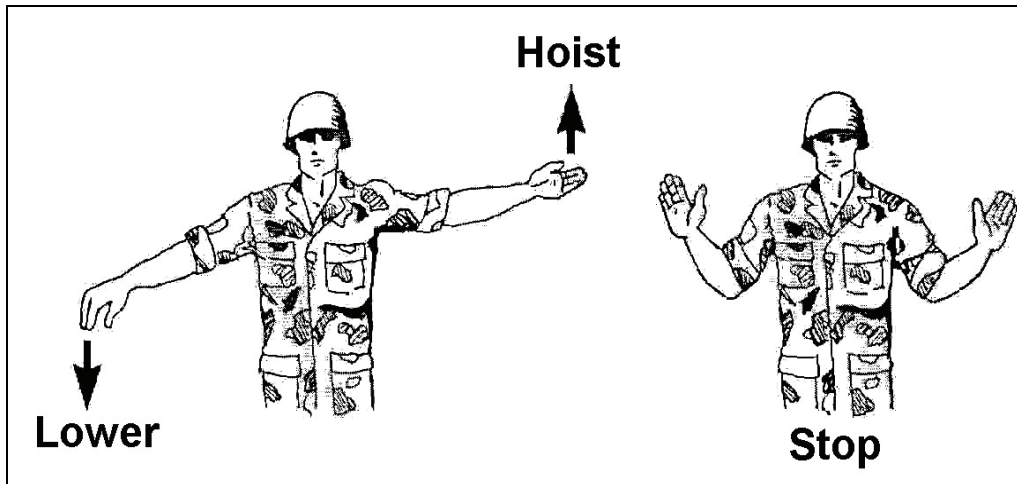

Figure 3-62. Signals for Two-Winch Operation
4. Give the two proper hand signals for a two-winch operation (see Figure 3-62).